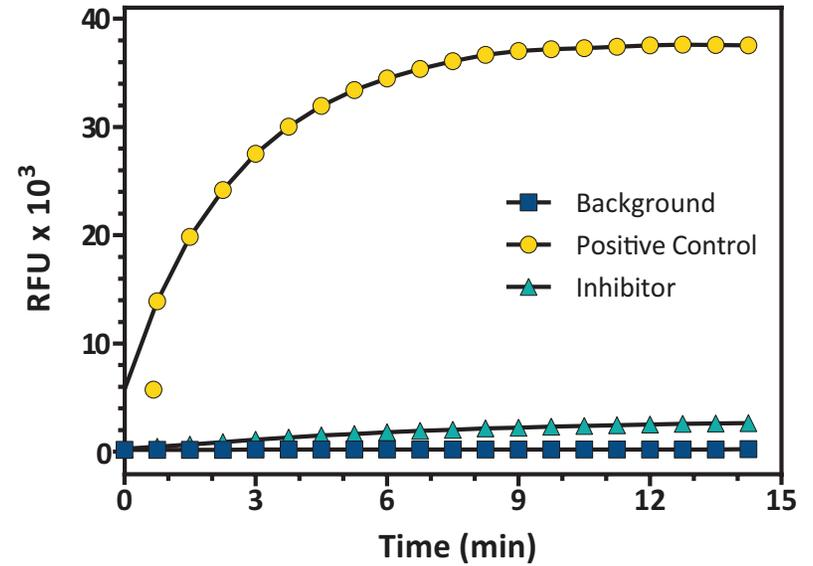

Figure 4. Human polymorphonuclear leukocyte MPO assayed with and without MPO inhibitor.
- Plotting the fluorescence values as a function of time to obtain the slope (rate) of the linear portion of the curve. An example of human polymorphonuclear leukocyte MPO assayed with and without MPO inhibitor over time is shown in Figure 4, on page 17.